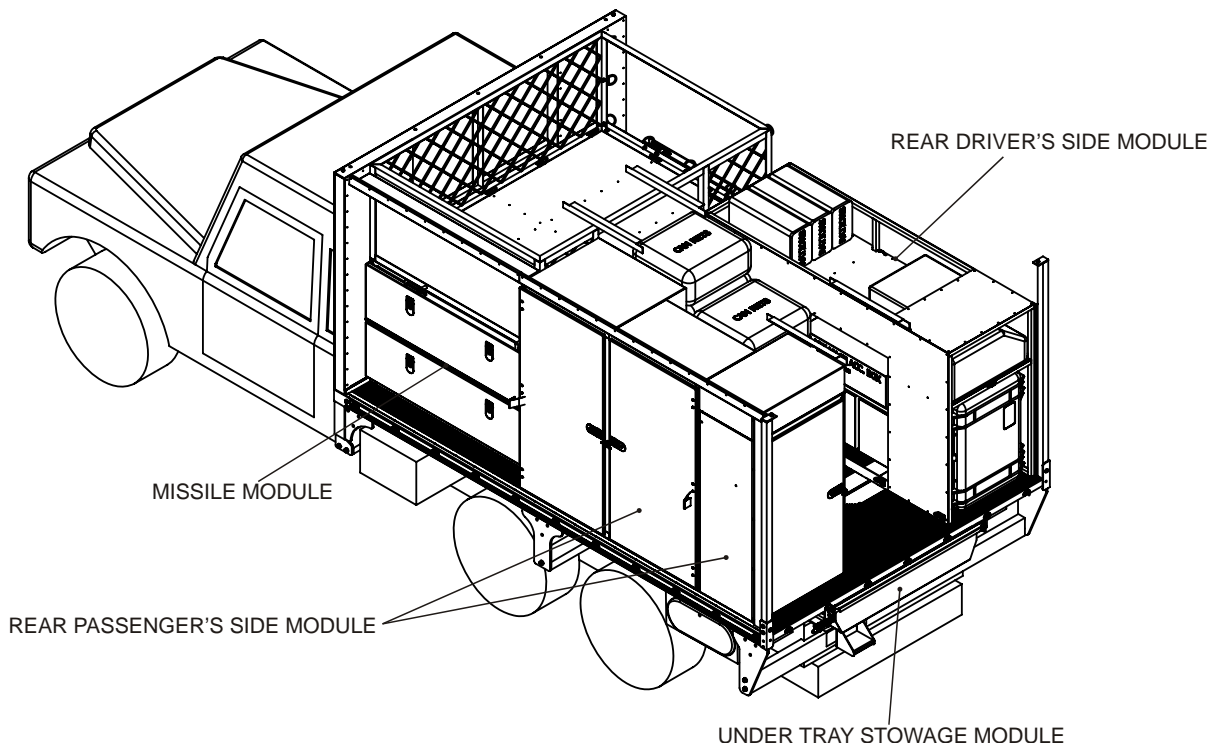

Figure 3 Rear Body (without canopy)
3. The vehicle's rear body utilizes a modified cargo tray (Figure 3) with stowages divided into four areas: missiles module, passenger's side module, driver's side module and under tray module. A solid roof covers the complete cargo area and is fitted with soft sides.